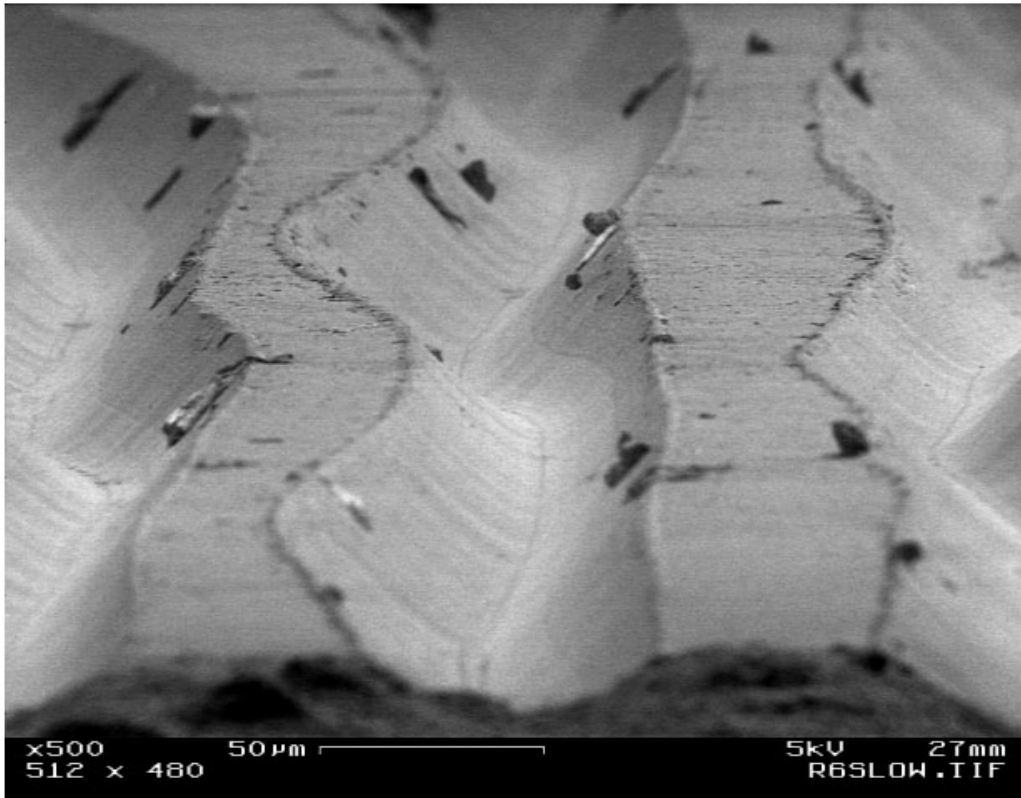

Figure 5: SEM image of a vinyl record. Note the scale.
- A quantitative comparison between your experimental value and a value you found using Figure 5 in Appendix A